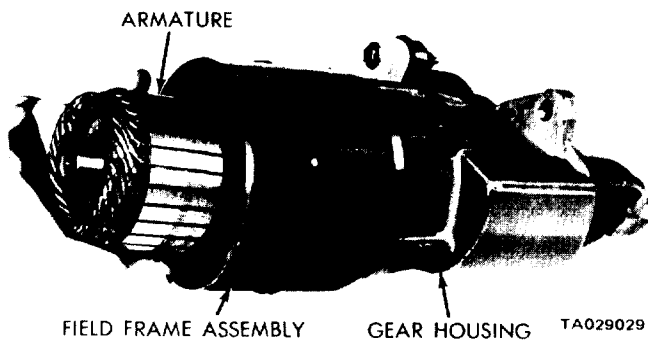

Figure 15-2. Removing Armature.
- b. Remove the armature from the gear housing and field-frame assembly (figure 15-2).